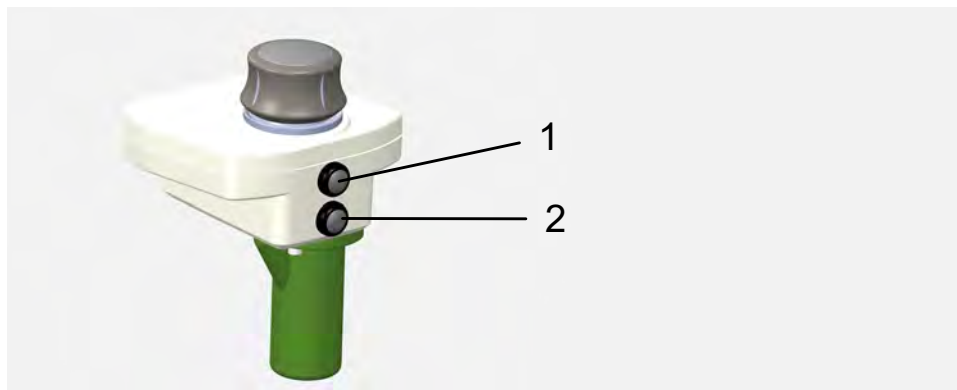

Fig. 4-10 Control of the ultrasound inline transducer
- Press the top button (**FIG. 4-10 / 1**).
- Press the bottom button (**FIG. 4-10 / 2**) and hold it down.